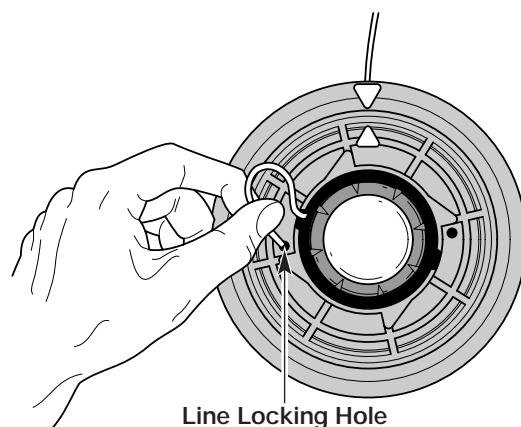

Fig. 48
5. Insert the line into the locking hole (Fig. 48). Do not push the line more than 1/2 inch (12.7 mm) into the line locking hole. The line will form a small loop (Fig. 48) when it is inserted correctly.